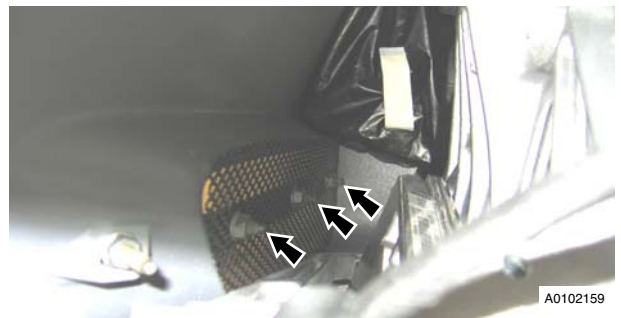

Figure 10
13. Remove vent mesh (nuts x3) (see Figure 10)).